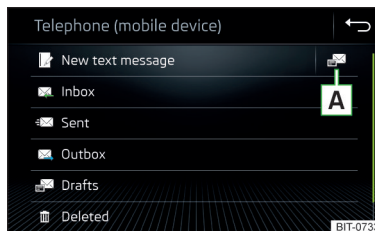

Fig. 197
- ▶ In the *Telephone* main menu, tap on the function surface The main menu for text messages appears » Fig. 197.
- ▶ In the main menu of the text messages, tap on function surface  interface» Fig. 197 on page 166.